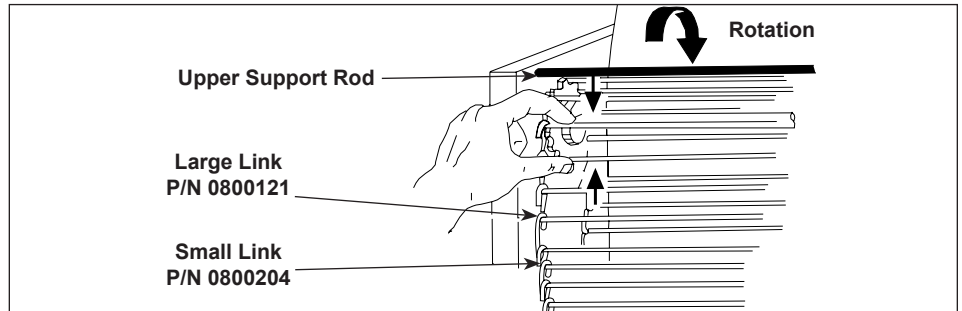

Figure 10. Removing Conveyor Belt Chain
9. Disconnect the Conveyor Belt Chain by squeezing any two links together and unhooking both ends one link (Figure 10). Needle-nose pliers may be used.
5. Disconnect the Conveyor Belt Chain by squeezing any two links together and unhooking both ends of one link (Figure 10).
**NOTE:** The ends of the hooks must point down (Figure 10).